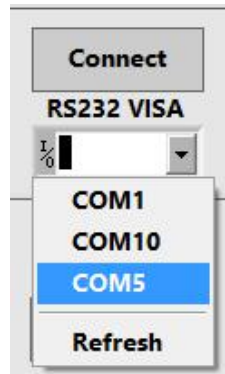

Fig.12 Connection steps diagram
1. Choose the right COM port at “COM configuration”, and then click “Connect” as Fig.12. If the connection succeeds, the software will show the information of the machine.